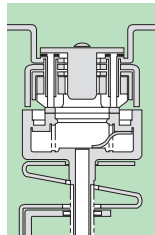

Fig. 2
- isolation of the main circuit is achieved by the separation of the main contacts (fig. 2). The arcing contacts are still closed. The current flows through the coil, the arcing contacts and the flexible connector.